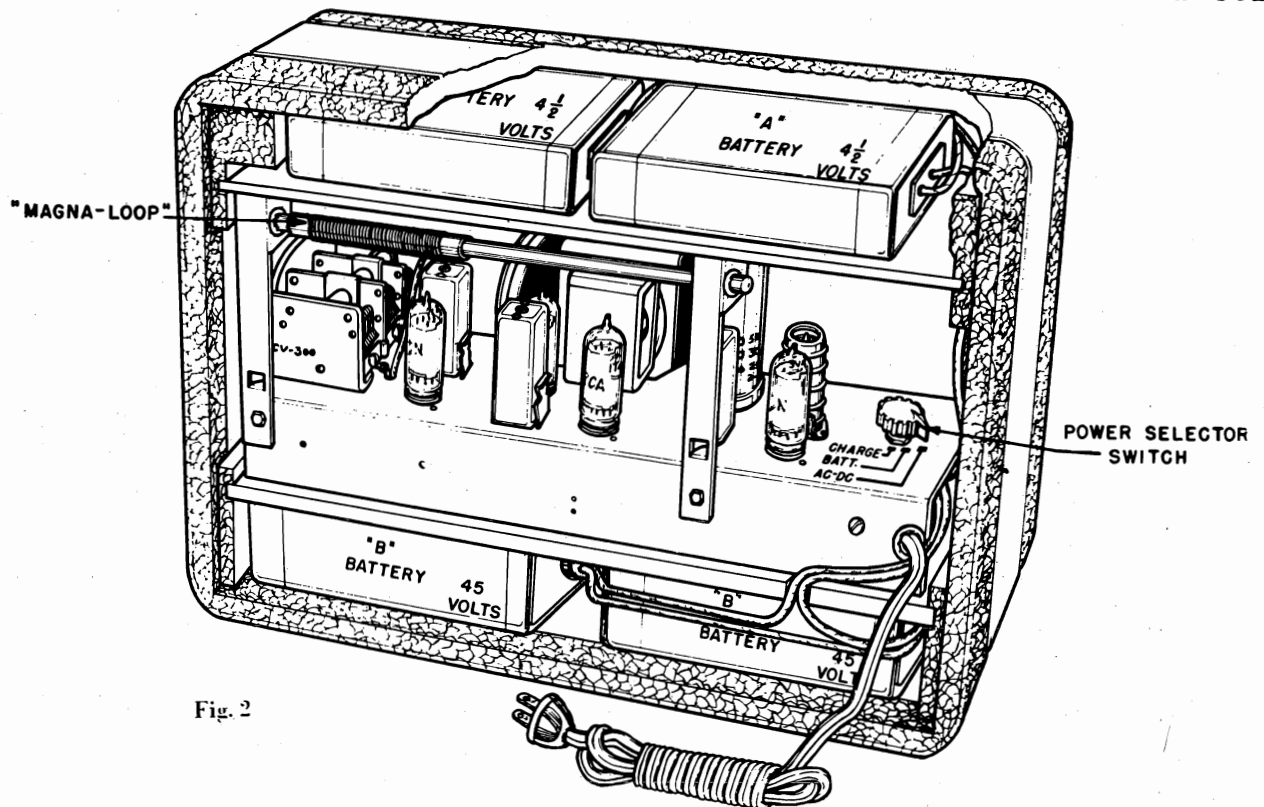

Fig. 2
POWER SELECTOR SWITCH (See Fig. 2)
3. Install batteries and insert cable plugs as shown in Fig. 2.